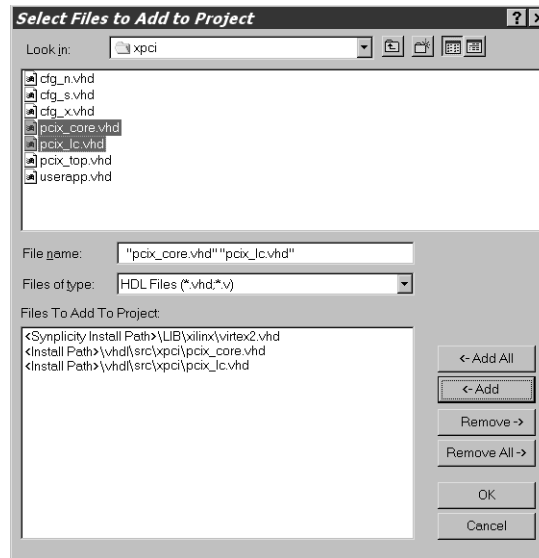

Figure 5-12: Files to Add (LogiCORE Files)
- Navigate to the xpci directory (Figure 5-12), select the simulation model and the wrapper files (pcix_core.vhd and pcix_lc.vhd), and click Add to move these files into the Files To Add list. (Ctrl + click to select multiple files.)